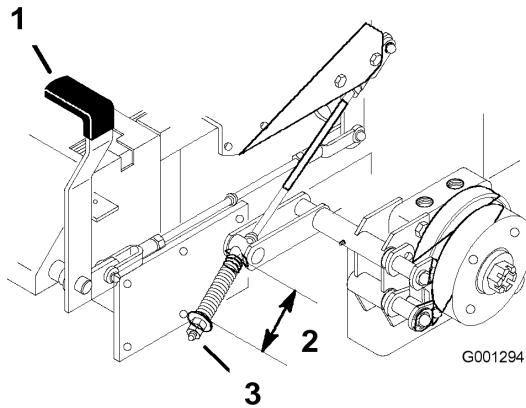

Figure 49
2. Measure the length of the spring. Measurement should be 2-1/2 inch (64 mm) between the washers (Figure 49).
3. If adjustment is necessary, release the parking brake, loosen the jam nut below the spring and adjust the nut directly below the spring (Figure 49). Turn the nut until the correct measurement is obtained. Turn the nut clockwise to shorten spring length and turn counter-clockwise to lengthen the spring.